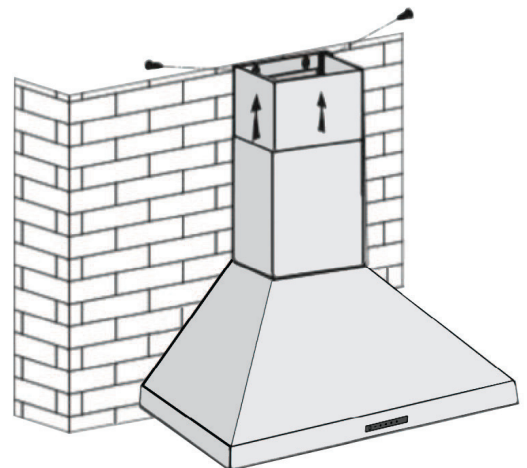

Figure 6
- Screw the upper chimney to the upper mounting bracket (see Figure 6).